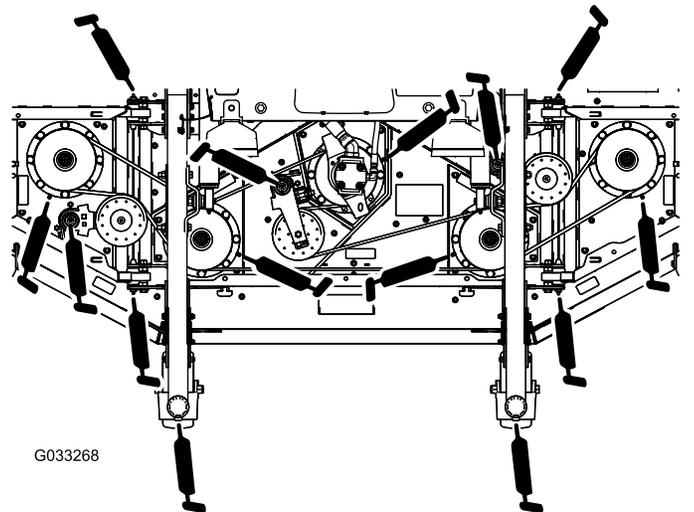

Figure 89
- 2 caster-fork-shaft bushings (Figure 89)
- 5 spindle-shaft bearings (located on the spindle housing) as shown in Figure 89
- 3 idler-arm-pivot bushings (located on the idler-pivot shaft) as shown in Figure 89
- 4 winglet-deck bushings (located on the winglet-pivot pins) as shown in Figure 89